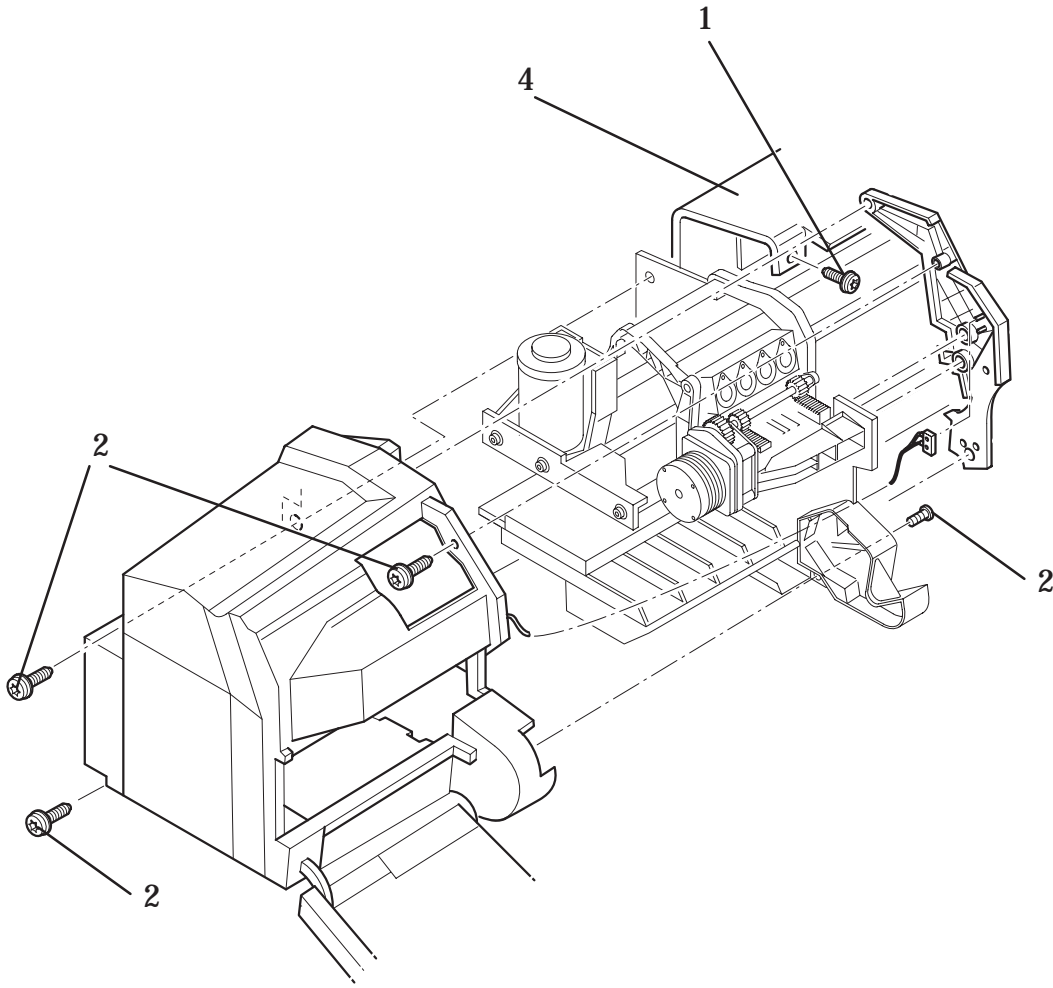

Figure 3: Top Cover
Refer to figures 3 and 4 ♦ page 8-16 and 8-17
1. Remove two T-15 screws (item 1 on figures 3 & 4) securing the top cover to the left and right hand covers.
2. **Loosen** the screws (item 2 on figure 3) on the left hand cover.
6. Remove the top cover (item 4 on figure 3).
1. Install the top cover (item 4 on figure 3) making sure that the two small wire clamps on the centronics port are positioned vertically.
5. Tighten the screws on the left hand cover (item 2 on figure 3).
6. Using two T-15 screws, secure the rear cover to the left and right hand covers (item 1 on figures 3 & 4).